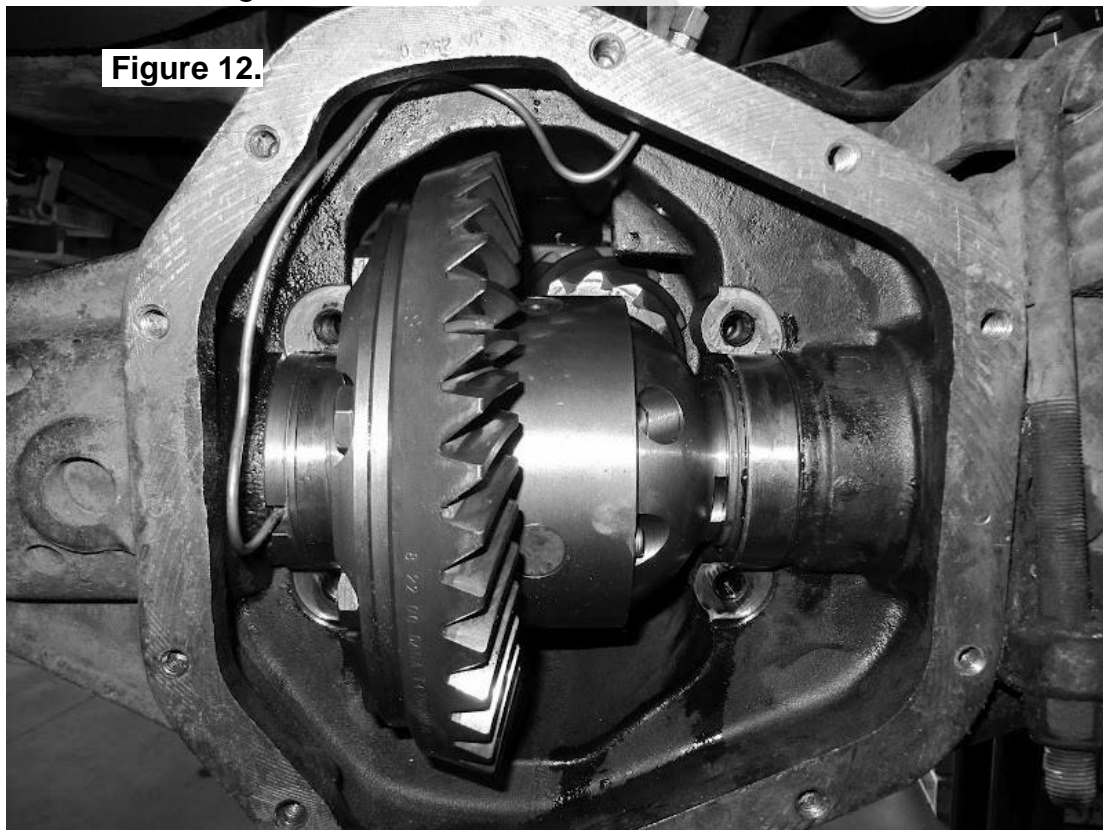

Figure 12.
- Without using sharp, jagged tools such as pliers (usually your hands are the best tool for this job), gently bend the seal housing tube so that it runs along the inside of the differential housing as shown in Figure 12.